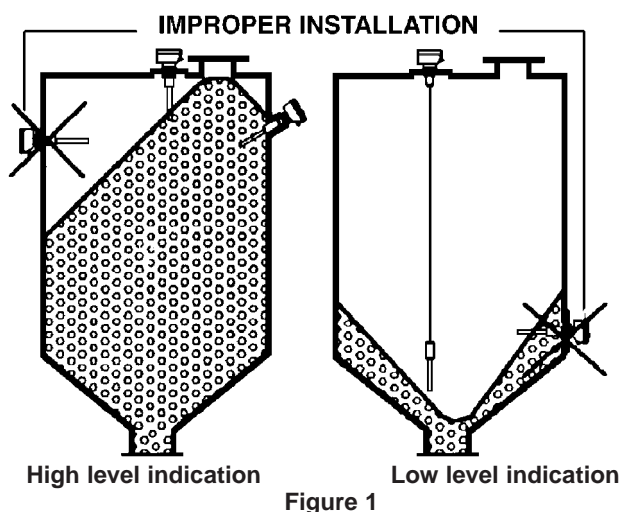

Figure 1
1. Install the unit at a location where the level variation is detectable, taking the arching or caving of the material into account. See **Figure 1**.
2. Install the rigid sensors at a tilt angle larger than the slope angle of the material being filled (or for high level applications-vertically mounted), build up on the sensor would prevent the unit from starting the vibration and thus eliminates the 'self cleaning' effect which can lead to false output when level decreases. See **Figure 1**.